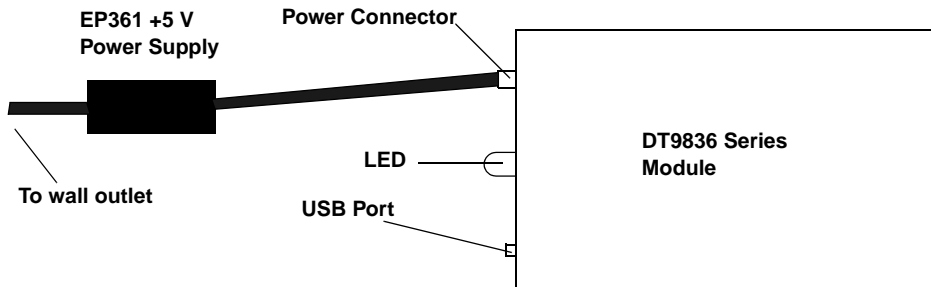

Figure 2: Attaching a +5 V Power Supply to the DT9836 Series Module
1. Connect the +5 V power supply to the power connector on the DT9836 Series module. Refer to Figure 2.